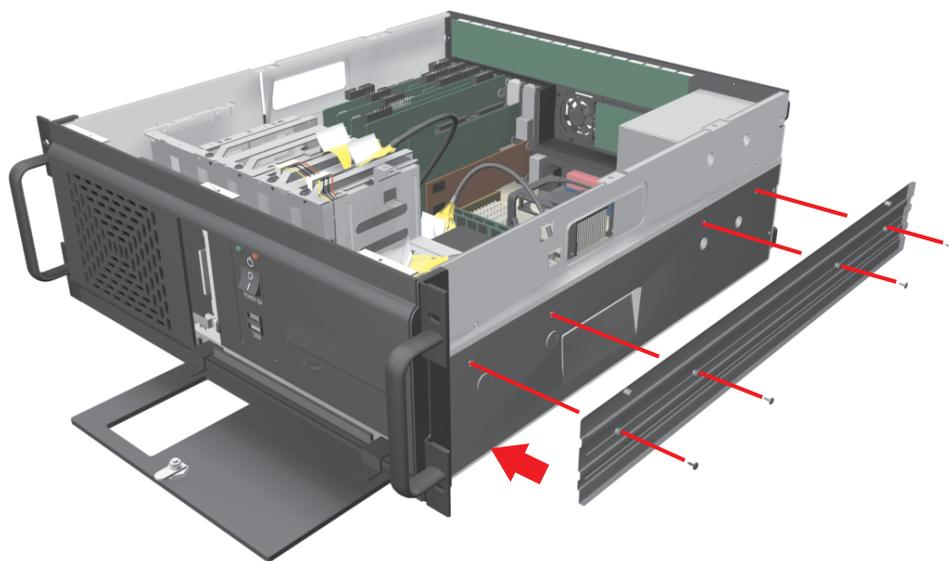

Figure 15. Replacing Side Panel
1. Using a Phillips-head screwdriver, reattach the side panel you removed earlier. Refer to Figure 15.